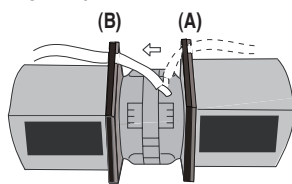
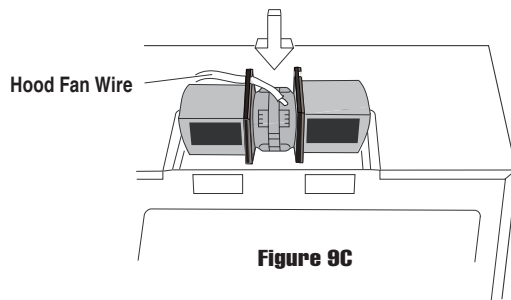

Figure 9B
Figure 9C
4. Replace Hood Fan Wire from (A) to (B). See Figure 9B on page 5. Replace Hood Fan Unit into the oven. **Be careful not to pinch the Hood Fan Wire and the Hood Fan Unit.** See Figure 9C on page 5.